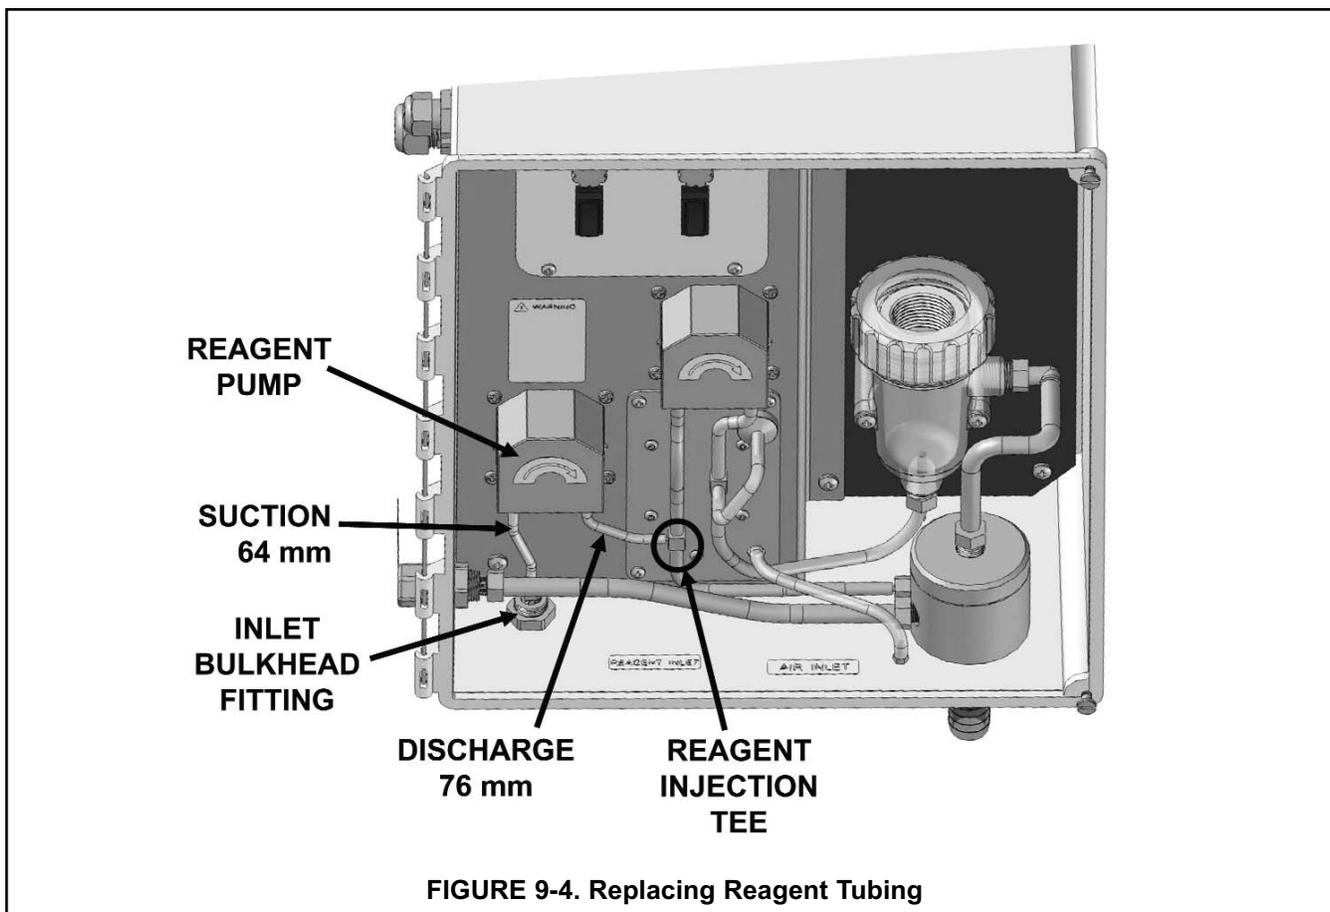

FIGURE 9-4. Replacing Reagent Tubing
1. Reagent tubing is shown in Figure 9-4.